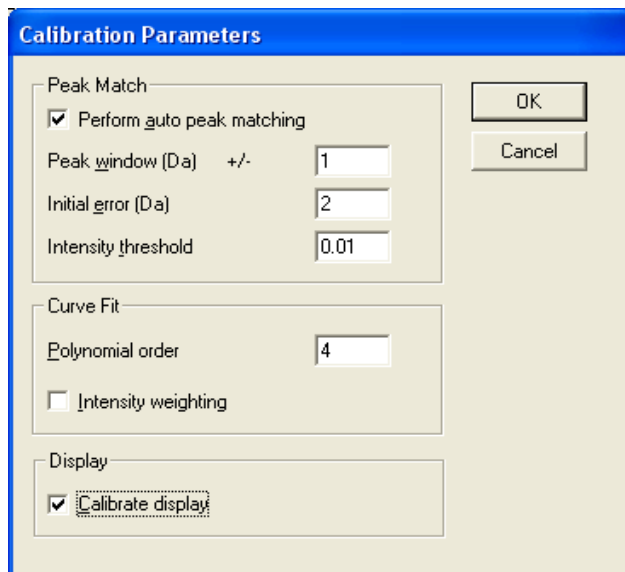

Figure 6-5 Calibration Parameters Dialog Box
Set the calibration parameters in the Calibration Parameters dialog box (Figure 6-5), which is opened by selecting Edit > Calibration Parameters in the Calibration Options window.
The Peak Match parameters determine the limits within which the acquired data must lie for the software to recognize the calibration masses and result in a successful calibration. The default values are shown in Figure 6-5.
- The Intensity threshold value, specified in the Calibration Parameters dialog box (see Figure 6-5), is too high. Peaks appear in the acquired calibration file but are ignored because they fall below this threshold level.
- The value for the Initial error (Da), or Peak window (Da) parameter, specified in the Calibration Parameters dialog box (see Figure 6-5), is too small. Hence, the calibration peaks lie outside the limits set by these parameters.
- In the Calibration Parameters dialog box (see Figure 6-5):